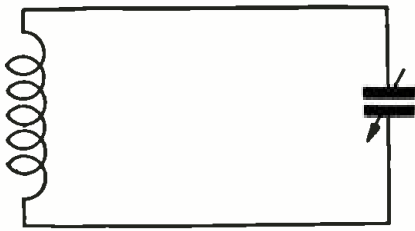
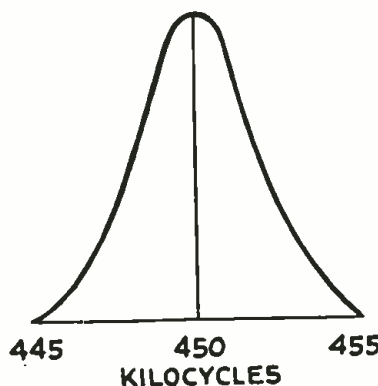
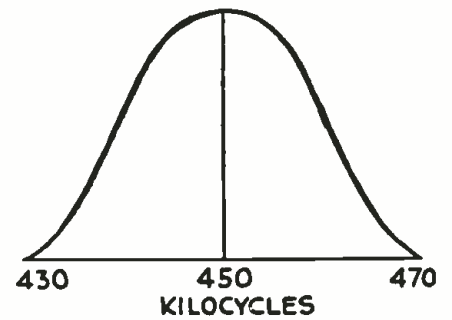

Fig. 1. Coil with variable parallel capacity.
Fig. 2. Resonance curve for tuning circuit shown in Fig. 1.
Fig. 3. Broad resonance curve.
Fig. 1 represents a television receiving scheme, in which my invention is embodied. Referring to Fig. 1: 1 is the constant, intense light source of a particular spectrum. By means of the lens system 2, the light is focussed on the light-absorbing tube 3. The tube is filled with a gas which, when glowing, shows an identical or very similar spectrum to that of the light source at 1. The electrodes of the absorption tube are connected to the signal amplifier 4. The light from 1 is passed through the electronic modulating tube and is focussed by means of a lens system 5, on the aperture in the diaphragm 6. The illuminated aperture acts as an independent light source and, in conjunction with an appropriate lens-scanning disc, or similar device 7, projects an enlarged picture or image on the screen 8.
Fig. 1—Mr. Pajes' new scheme for a light valve of the absorption type (3) placed in line with the source of the scanning light (1); the received image signals operate through amplifier (4), to modulate the absorption tube light at (3) and in turn the scanning light beam passing through the valve.
The matter of selectivity is closely connected with that of tuning. If we have the usual resonant circuit (Fig. 1) tuned to one transmitter, this means that the effective impedance of the tuned circuit is at a maximum for the radio-frequency signal to be received. Now, if we detune the circuit by turning the variable condenser, then the volume at which we previously received the transmitter in question becomes less; because the effective impedance of the tuning circuit has become less. If we turn the variable condenser of the tuning circuit of a receiver to the point at which we receive a station; then, for the reason given, the effective impedance to the signal will rise slowly, then suddenly, until the maximum is reached at the point of resonance. Now, if we turn the variable condenser further, we can bring about a decrease of the resulting impedance until it is so small that the station previously heard is no longer audible. The action just described is illustrated by the "resonance curve" in Fig. 2.
local receiver will therefore be very broad at the bottom; because the rising and descending slopes of the curve are only slightly inclined toward each other (Fig. 3). A resonance curve narrow at the bottom, on the other hand, indicates a great selectivity of the set, whose variable condenser only needs to be turned a few degrees to eliminate a station, which means that the impedance of the tuned circuit rises suddenly and very steeply (Fig. 2). With the varying of the condenser, we always tune our resonance circuit to a different frequency (and consequently, wavelength).